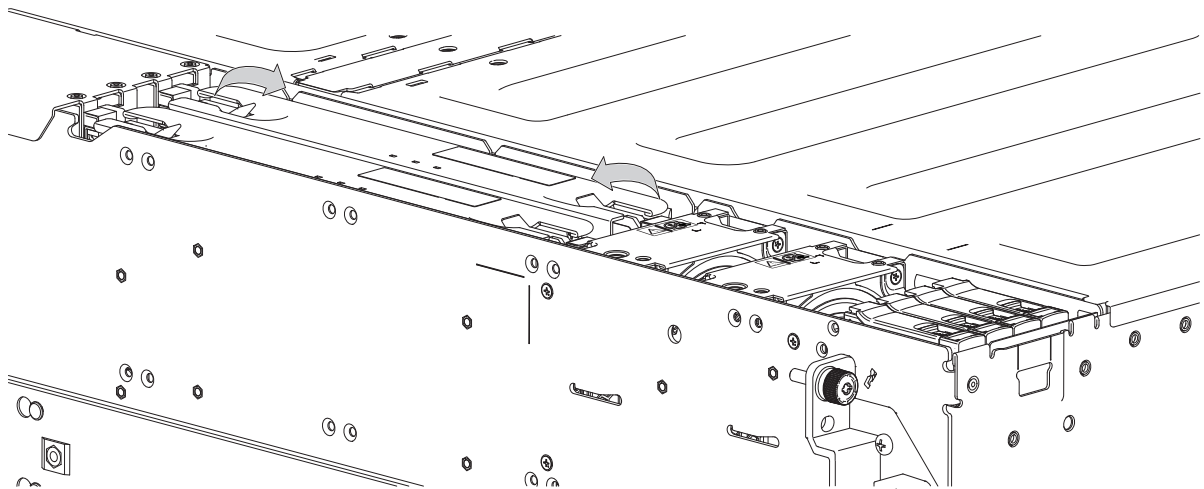

Figure 83 Locking the SPM at its place using swing-arms
3. Rotate and press the swing-arms inwards to lock the Storage personality module (See Figure 83).